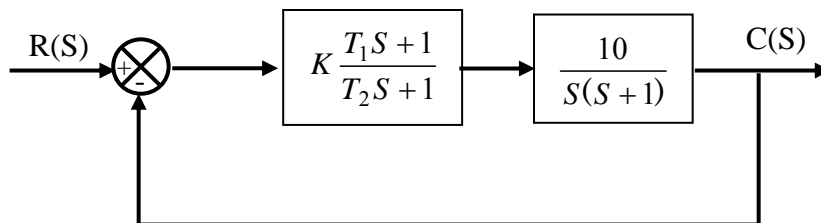

Figure-3
- 03 Determine the values of K , T_1 and T_2 of the system depicted in figure-3 so that the dominant closed loop poles have the damping ratio 0.5 and undamped natural frequency 3 rad/sec. [16]